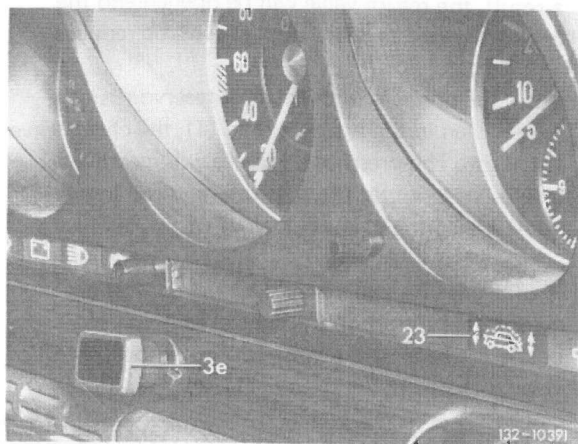

Fig. 139
A pull switch on instrument panel permits attaining the following positions (Fig. 139 and 140):
In position "H" and "S", the warning light (23) (red, with vehicle symbol) at right in instrument cluster will light up (Fig. 139).